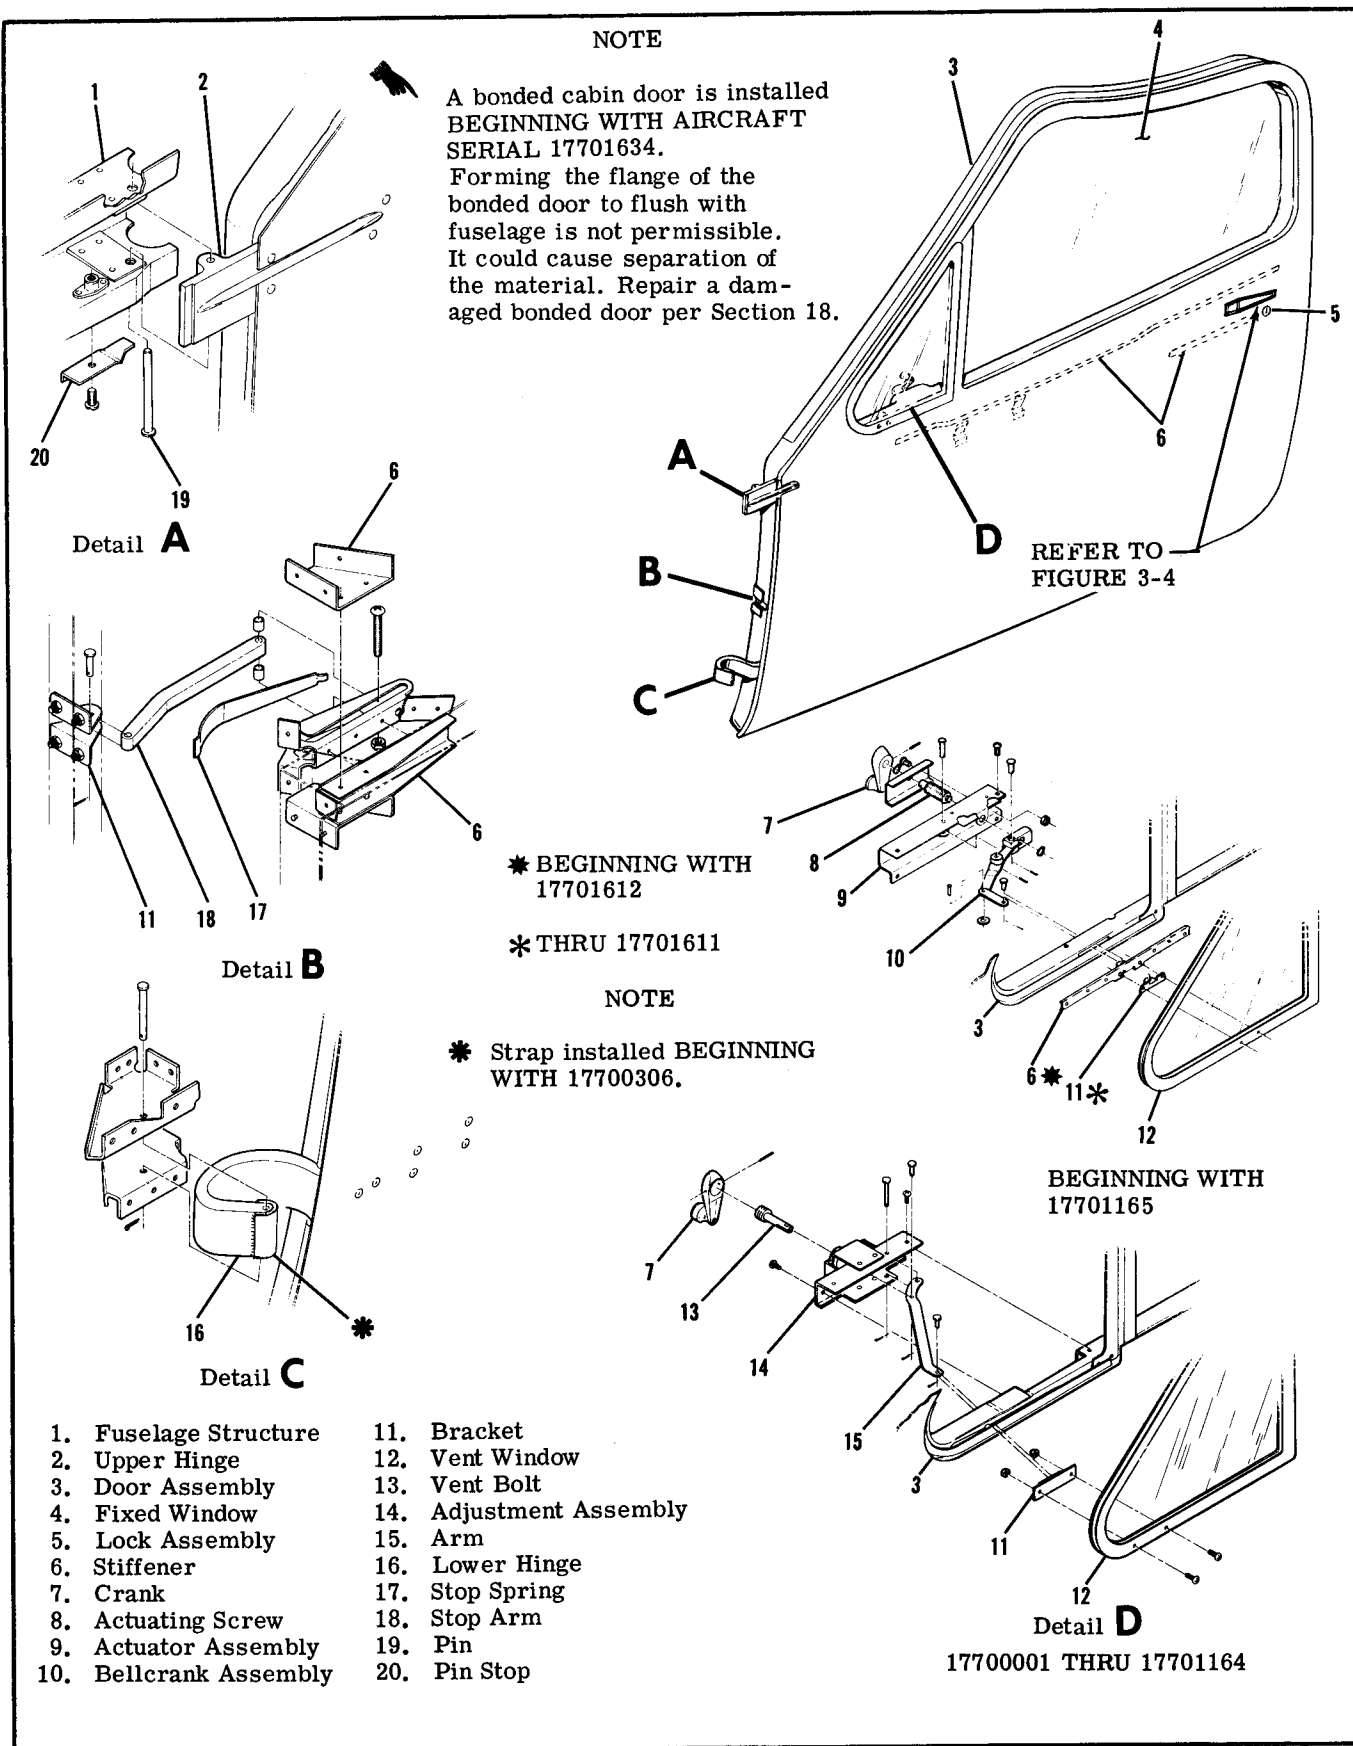

Figure 3-3. Cabin Door Installation
3-13. MOVABLE. (Refer to figure 3-3.) A movable window, hinged at the aft edge, is installed in the forward part of each cabin door. The window is operated by a crank on the inside of the door.
- b. DOOR WINDOWS. (Refer to figure 3-3.)
3-19. CABIN DOORS. (Refer to figure 3-3.)